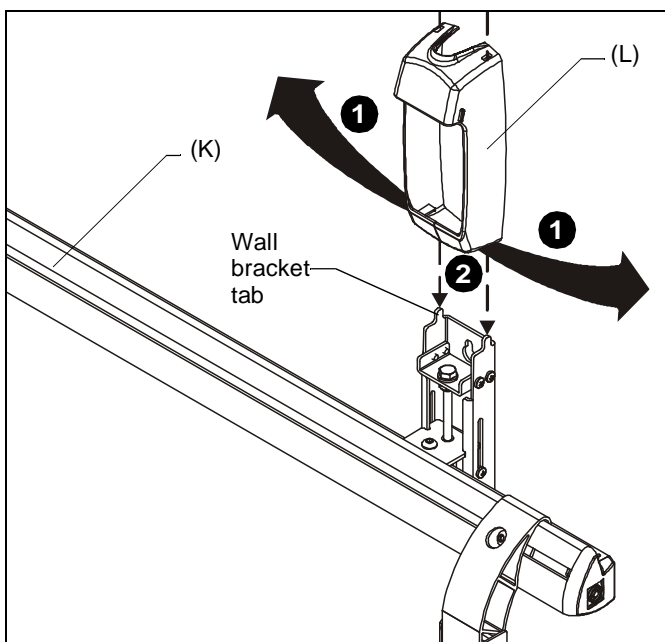

Figure 13
1. Open the lower flaps of the wall bracket cover (L) outward. (See Figure 13)
2. Slide the cover downward, hooking the top of the wall bracket covers (L) onto the tabs on top of wall assembly brackets. (See Figure 13)
3. Slide the lower flaps of the wall bracket cover (L) under the bottom of the wall assembly brackets (K). (See Figure 13)